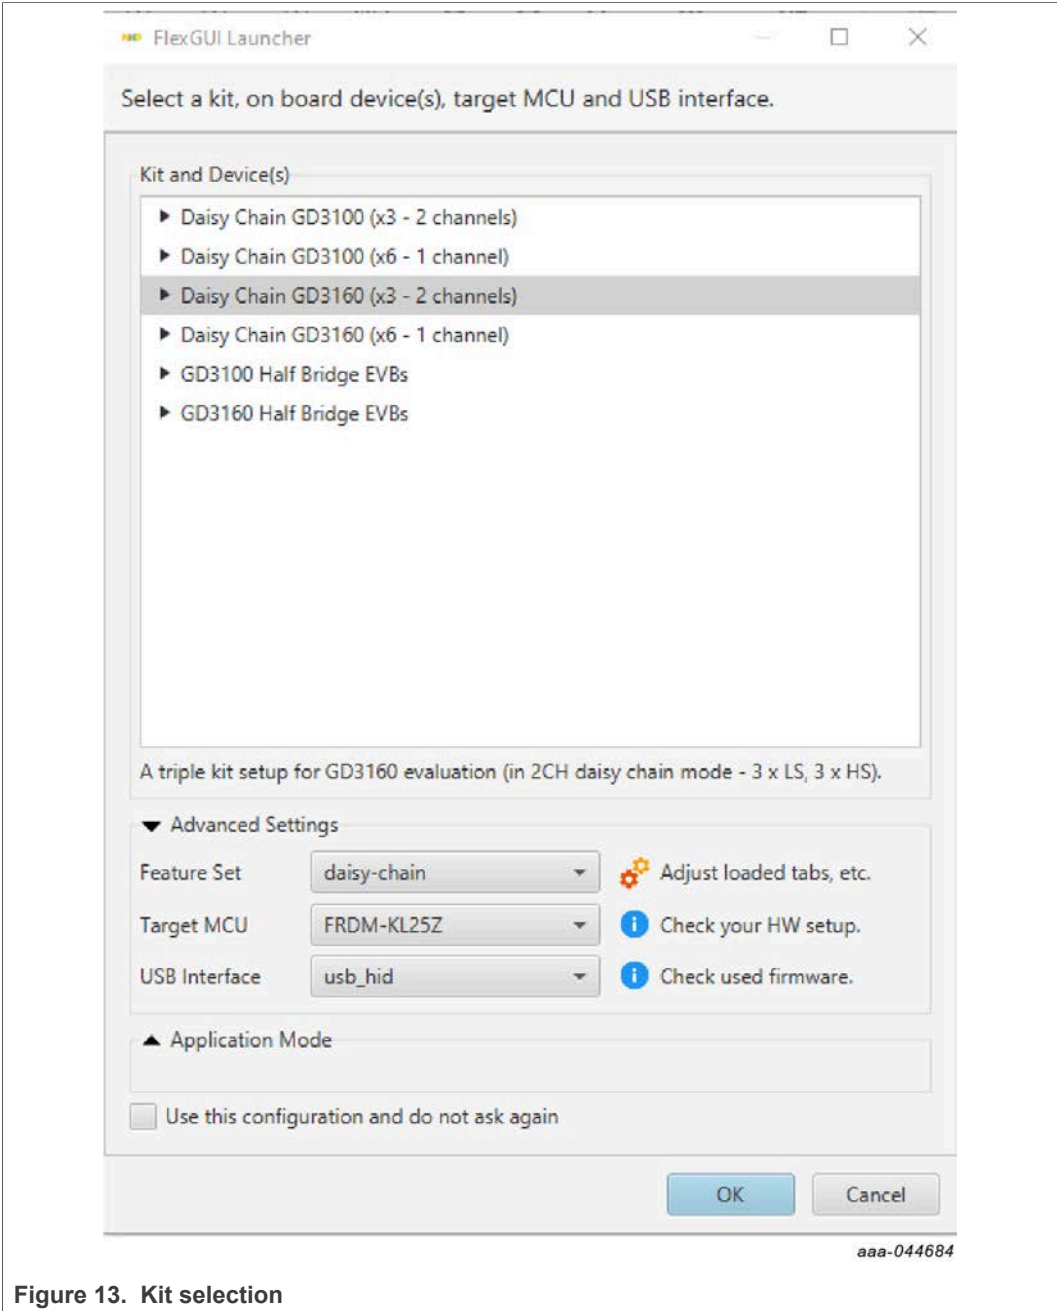

Figure 13. Kit selection
To quickly check that the microcode is programmed and the board is functioning properly, plug the KL25Z into the computer, open FlexGUI, and verify that the software version at the bottom is 6.4 or later (see Figure 13).
- When you start the application, Figure 13 allows you to select the target application board, feature set (standard or daisy chain), target MCU, and USB interface. Leave all settings as shown.